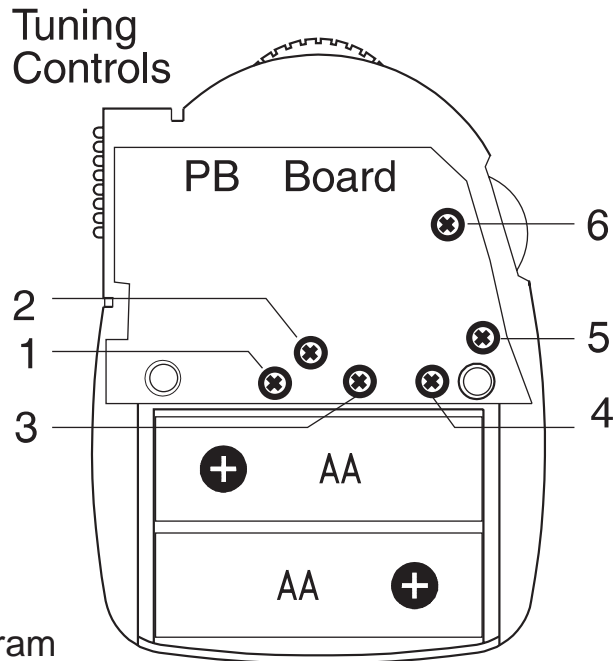

Figure 2. Tuning diagram
2. Open the RX-6 case by removing the two Phillips case screws on the rear. Remove the back panel. Near the bottom and right side of the printed circuit board (See Figure 2, next page.) are six tuning holes that correspond to the six channels.